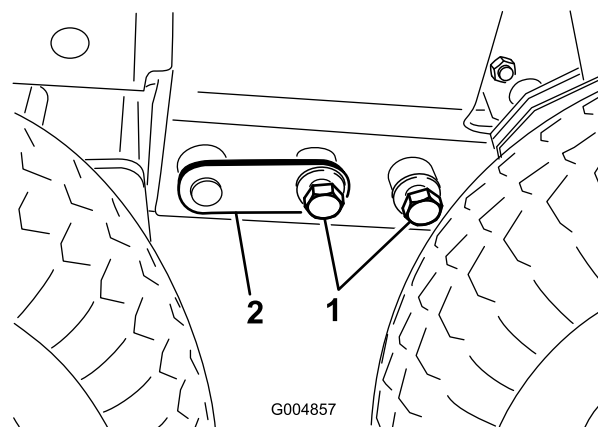

Figure 80
19. Remove the (2) 3/4" diameter bolts that attach the front frame to the rear frame ahead of the drive tire from each side of the frame (Figure 80). **DO NOT REMOVE THE COUPLER PIN AT THIS TIME.**